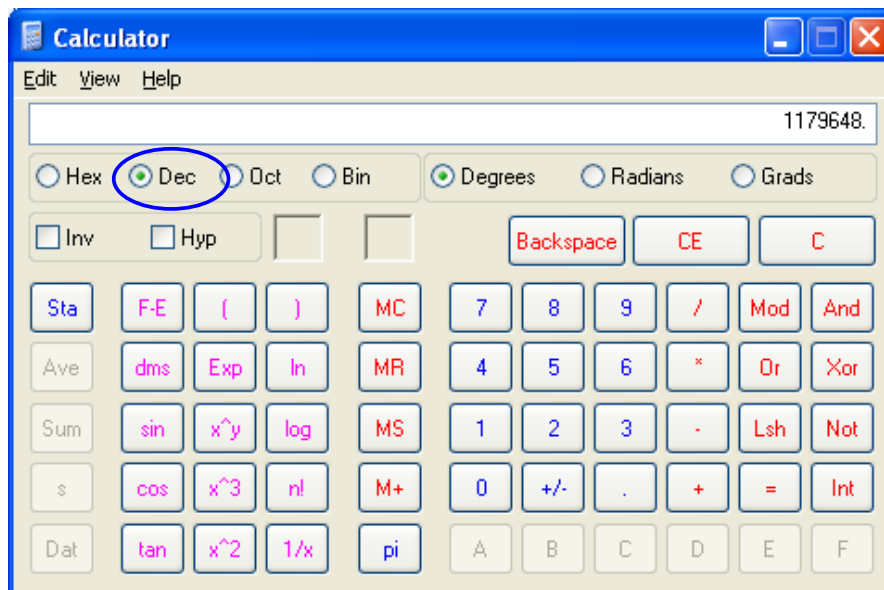

Figure 143
- Open your calculator (View Scientific) and type the number and then select Hex(See Figure 143)